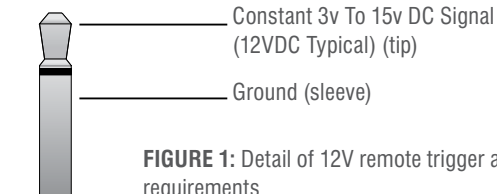

FIGURE 1: Detail of 12V remote trigger and mini-plug connector requirements
(F) 12V REMOTE TRIGGER: A 1/8" (3.5 mm) mini-plug connector is provided on the rear panel of the Model 312 for remotely switching the amplifier between Operational and Standby modes. When connected to another component with the proper circuitry, the amplifier standby function can be turned ON and OFF remotely in a custom installation, theater, or automated system setup. (See FIGURE 1)